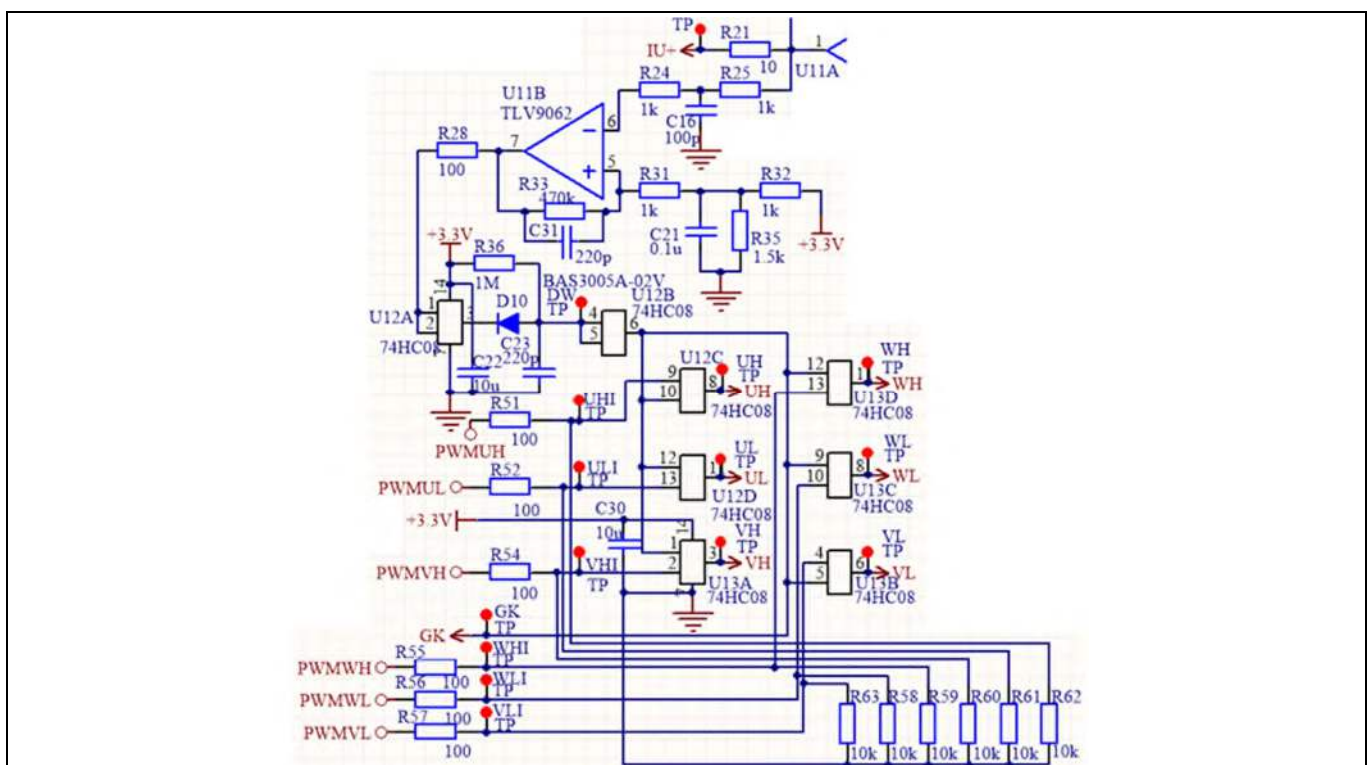

Figure 22 Overcurrent and GK/PWM shutdown
Figure 22 is the overcurrent protection (OC) and gate kill (GK) circuit. The PWMUH, PWMUL, PWMVH, PWMVL, PWMWH, PWMWL are three-phase 3.3 V level PWM from J3 (from EVAL-M1-101T). UH, UL, VH, VL, WH, WL is 3.3 V level PWM to U1, U2, U3 (IPM). The following: R51, R52, R54, R55, R56, R57 are input resistors for damping noise from connections. R58, R59, R60, R61, R62, R63 are pull-down resistors for preventing noise from input open (J3).